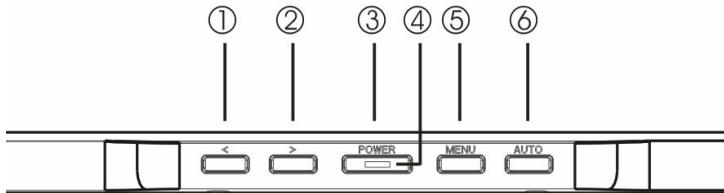

Figure 4. Monitor features
1. First start your PC and then turn on your monitor using the power switch (③ in fig. 4). The status indicator (④ in fig. 4) should light up blue.
You can adjust the image settings (such as brightness, contrast, image position, phase, etc.) manually or by using the LCD monitor's automatic image adjustment feature. This will adjust the image parameters to their optimal settings for the current graphics mode. Press **AUTO** (⑥ in fig. 4) to launch the automatic adjustment. The process will take a short while until completed.
You can adjust brightness and contrast directly by pressing the < button (① in fig. 4) while the OSD menu is not displayed. Press the > button (② in fig. 4) to increase the contrast/ brightness or the < buttons (① in fig. 4) to decrease it.
You can adjust the volume directly by pressing button > (② in fig. 4) when the OSD menu is not displayed on screen. You can then change the volume by pressing the buttons < or > (① and ② in fig. 4).
To lock and unlock the OSD menu, hold down the button combination < (① in fig. 4) and **MENU** (⑤ in fig. 4) until a corresponding message is displayed.
Press the **MENU** button (⑤ in fig. 4) to display the OSD menu on the screen.
1. There are a total of 5 OSD submenus divided by categories. Select the desired submenu by pressing the OSD button < or > (① and ② in fig. 4; see section "OSD Menu Functions").
2. Press the OSD button **MENU** (⑤ in fig. 4) to activate the selected function or associated submenu.
3. If you selected a submenu, now select the sub-function you want using the < or > OSD buttons (① and ② in fig. 4).
4. Set the desired value using the OSD buttons < or > (① and ② in fig. 4).
6. The OSD menu automatically disappears if no changes are made for more than 25 seconds (default setting). The current settings will be saved. You can close it manually by pressing the button **AUTO** (⑥ in fig. 4) button.
Brightness: Adjusts brightness by using the buttons < or > (① and ② in fig. 4).
Contrast: Adjusts screen contrast by using the buttons < or > (① and ② in fig. 4).
Auto Adjustment: Automatically selects the optimal settings for image parameters (image position, phase, etc.) by using the button **MENU** (Ⓢ in fig. 4).
This menu lets you select a preset color temperature (**9300 K**, **6500 K**) by pressing the OSD buttons < or > (① and ② in fig. 4). Changes to the color temperature take immediate effect on screen. If you wish to set individual color values, select the **Custom Color** option. Then press the MENU button (Ⓢ in fig. 4) to select the red, green and blue settings and set the desired value using the OSD buttons < or > (① and ② in fig. 4). The current settings are automatically saved when you return to the previous level or exit the OSD menu.